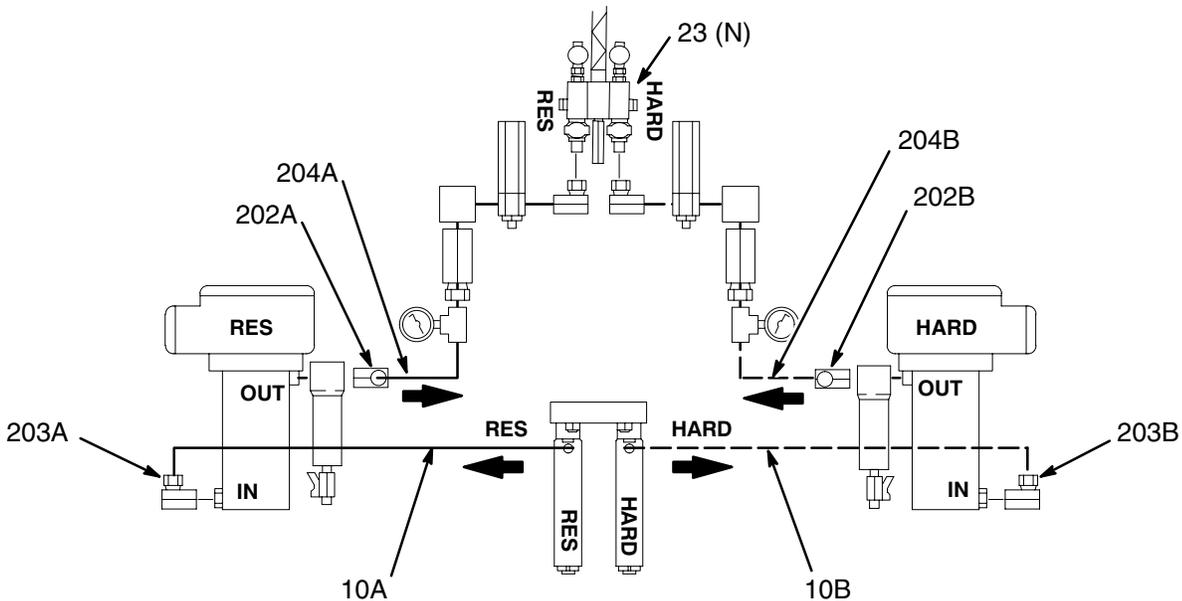

Fig. 7
1. Disconnect the existing hardener hose (10B) from the inlet of the mixer manifold (23). See Fig. 6. Connect the free end of the hose to the swivel (203) at the hardener heater inlet. See Fig. 7.